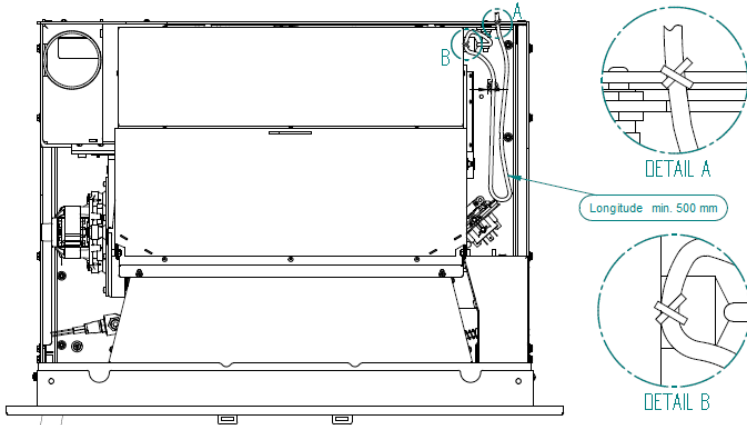

Figure 11 - Electrical connection
- After connecting the power cable to the silo column, it is necessary to attach the cable to the same column and the base, making sure to leave enough cable length, so that the equipment can make the entire route in the rails (500 mm), without the cable being stressed or touching the hot parts, Figure 11.